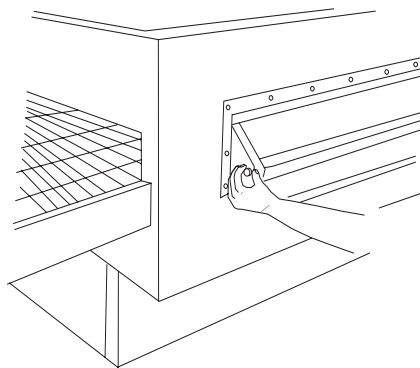

Figure 4-5. Unscrewing a Window Knob, Before Removal
2. Remove the window by opening it (into the oven interior). Then, unscrew the window knobs from each end (Figure 4-5).